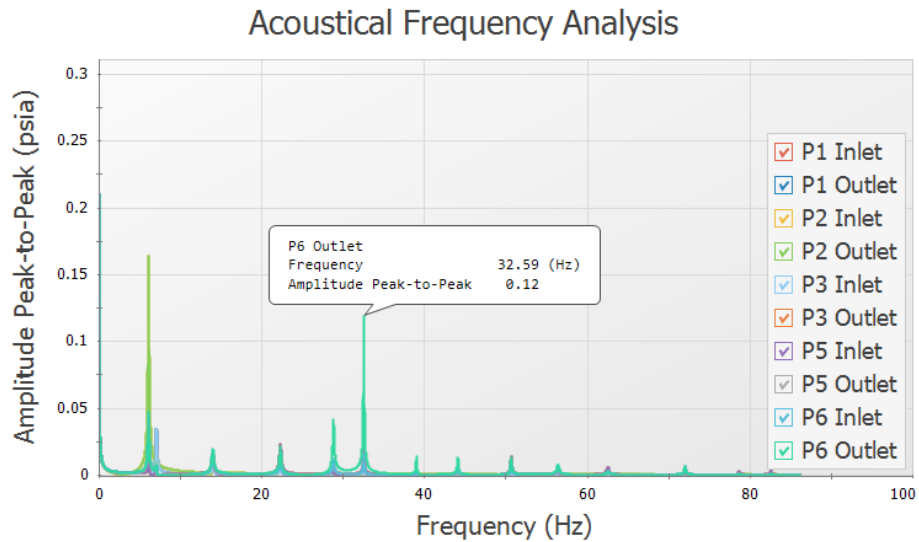

Figure 11: Excitation Frequency Analysis with Dialog Flag
- b. Left-click near the frequency of about 32.59 Hz and drag the mouse over the peak on the graph near this frequency. This will highlight and flag the local maximum. Figure 11 shows the frequency graph after the dialog flag appears.